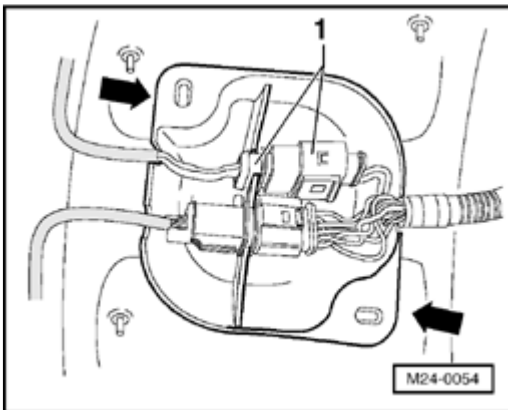

Fig. 305: Location: 4-Pin Connector -1- For Oxygen Sensor (O2S) Behind Three Way Catalytic Converter
- Location: On right on underside of vehicle. Refer to **Fig. 305**